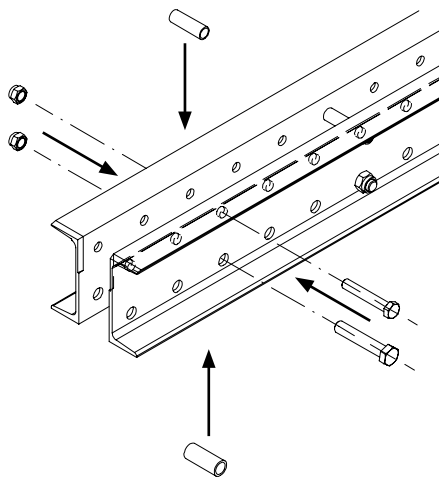

Fig. E1.04a
2. Place the spacers of the RCS Rails in the correct position again. (Fig. E1.04a + E1.04b)